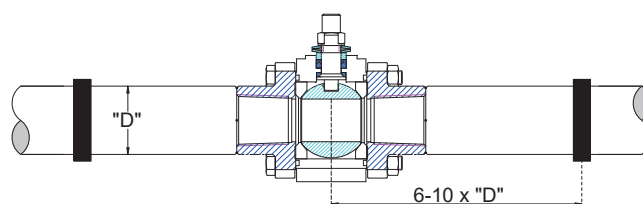

Fig.1
- The ball valve shall be installed minimum 6 pipe diameters from sources of turbulence (See Fig.1).